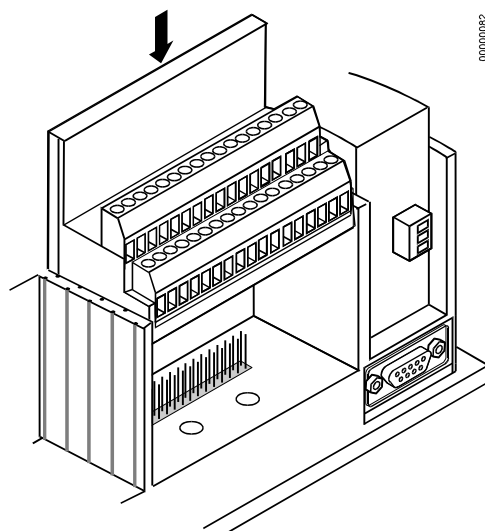

Fig. 33. Attaching screw terminal blocks
12. Attach the terminal blocks to the housing (Fig. 33).